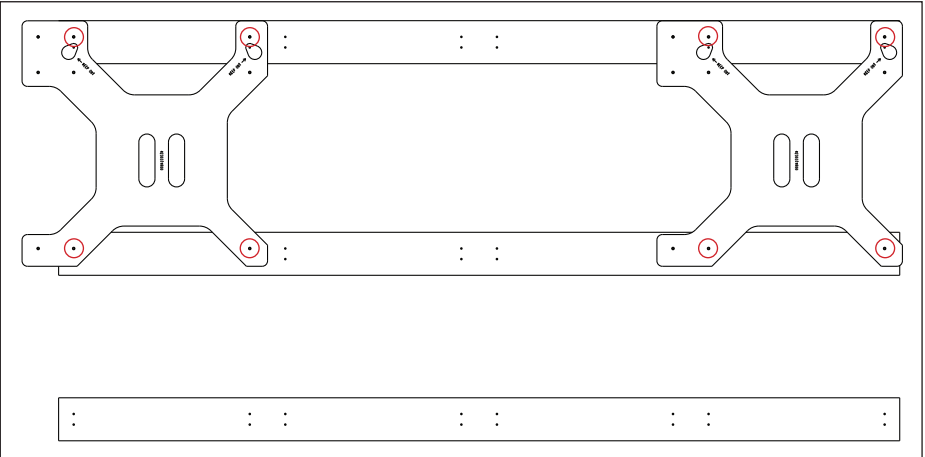

Figure 5: Install Third & Higher Wall Tubes
4. Install the third and higher wall tubes while referring to **Figure 5**:
- c. Drill four 17/64" (~0.266") clearance holes through the front and rear walls of the tube at all stud locations. Refer to **Figure 5**.